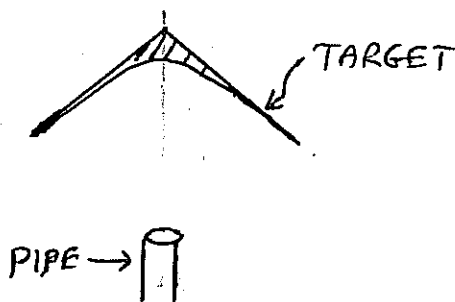

Figure 4
4) A student measures the force exerted by a jet of water on a conical target. The student uses the arrangement shown in Figure 4, where the target is directly above a pipe. The jet discharged by the pipe hits the target. The student derives the theoretical equation for the